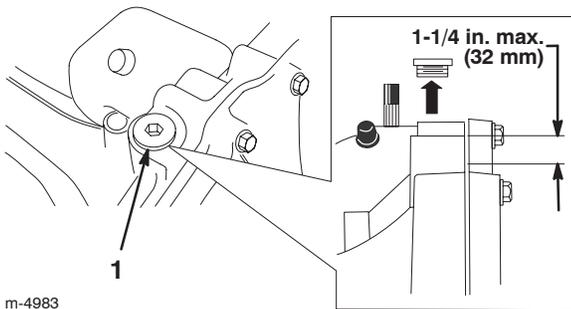

Figure 29
4. Clean around the fill plug (Fig. 29) so that dirt cannot fall into the reservoir if you need to add fluid.
5. Remove the fill plug and check the fluid level. The level should be a maximum of 1-1/4 in. (32 mm) below the top of the fill port (Fig. 29). Add fluid if necessary.